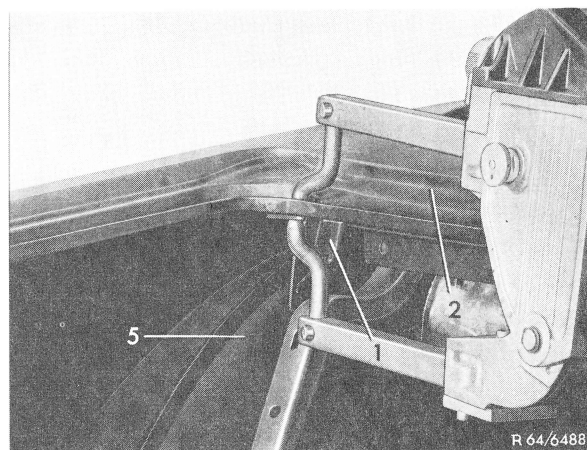
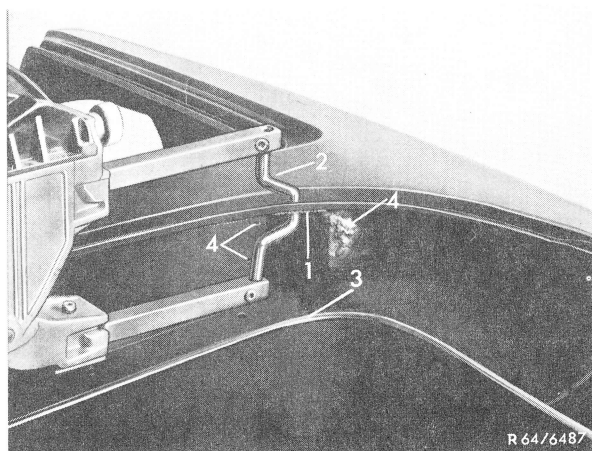

Figure 1
Figure 2
- 12 Spotweld hinge bearing (1) to upper rear center piece (2) (Fig. 1 and 2) and connect from inside of well (3) by plug welding (4) (Fig. 2).
13 Connect hinge bearing (1) to wheel house (5) by stringwelding (Fig. 1).